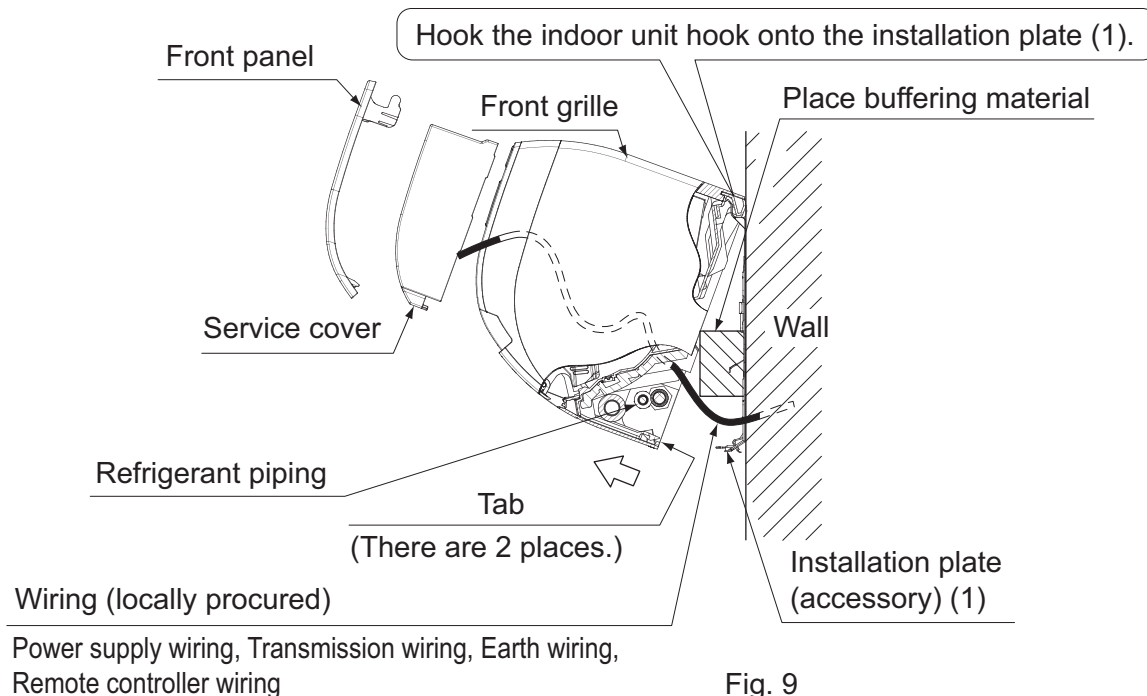

Fig. 9
**(6) Hook the indoor unit onto the installation plate. (Refer to Fig. 9)**
**(9) Push on both bottom edges of the indoor unit using both hands and hook the tab on the back of the indoor unit onto the installation plate (1). (Refer to Fig. 9)**
- At this time remove the buffering material placed in step (6).